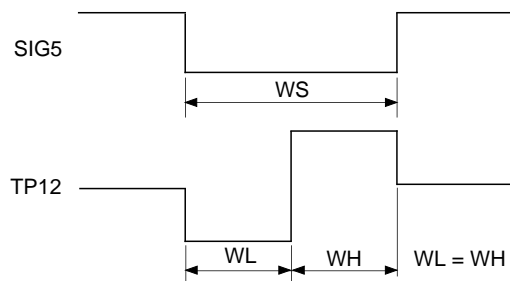

Fig. 1-2. Horizontal AFC adjustment
Input SIG5 (VL = 0mV) to (A) and adjust serial bus register PLL ADJ so that WL and WH of the TP12 output waveform are the same. (See Fig. 1-2.)